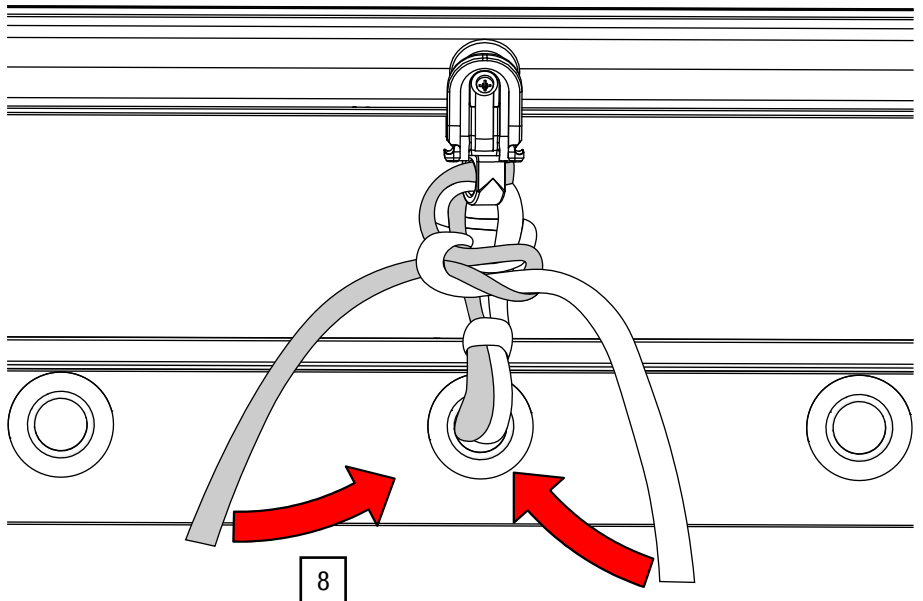

Fig. 96: Tie line – Secure loose ends in curtain eyelet
8. Secure the loose ends by pulling them through the curtain eyelet (see Fig. 96).